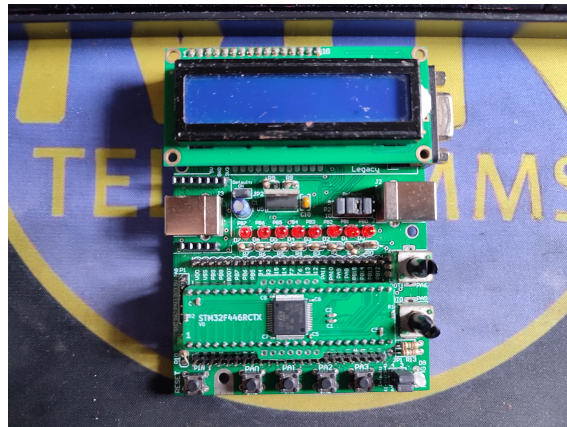

Figure 2: STM32F4 Development Board
3. Once plugged in, the development board should resemble the one in Figure 2 below: